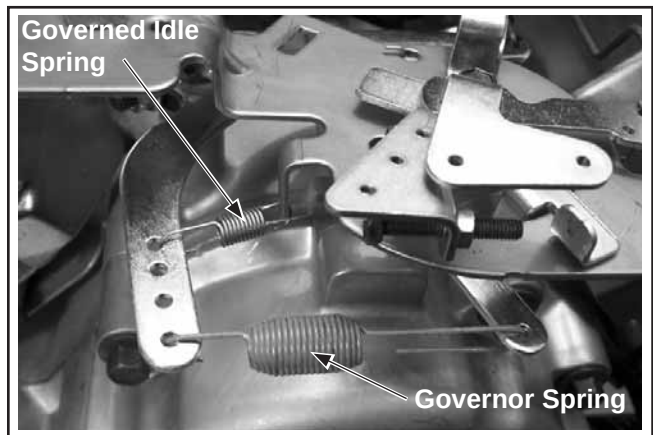

Figure 10-76. Governor and Dampening Spring Installation (Typical).
3. Connect the governed idle spring to governor lever and main control bracket. Connect the governor spring from the throttle control bracket to the appropriate hole in the governor lever, as indicated in the applicable chart. Note that hole positions are counted from the pivot point of the governor lever. See Figure 10-76.